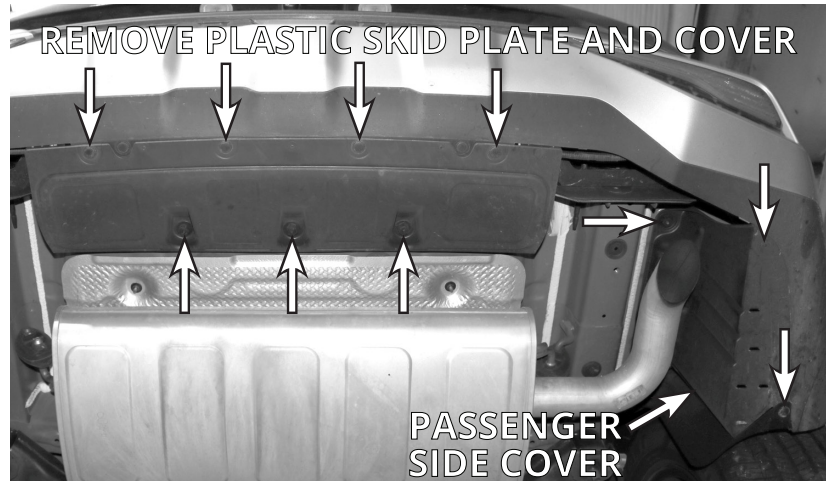

FIGURE A1: VIEW UNDER THE REAR VEHICLE BUMPER
1. Under the rear of the vehicle, in front of the rear bumper, there is a skid plate and a passenger side cover. Both will need to be removed. Use a plastic pry tool and a socket to remove the six plastic rivets and five plastic nuts holding the skid plate and cover, as shown in Figure A1.